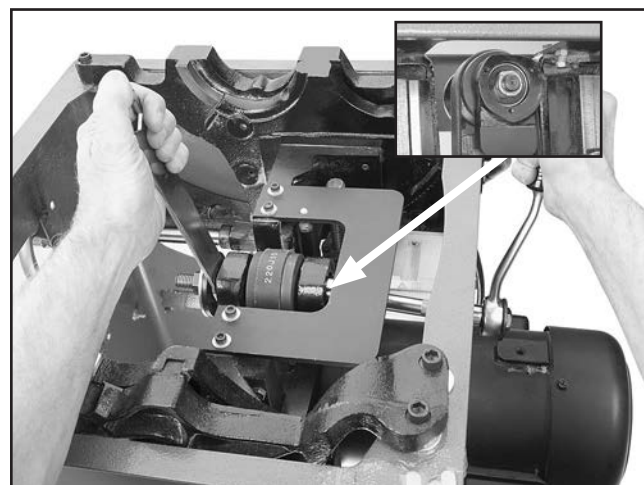

Figure 131. Removing arbor lock nut. (Inset: arbor lock nut.)
11. Place the open end of the arbor wrench on the arbor, and while keeping the arbor stationary, use a 25mm wrench to loosen and remove the lock nut at the other end of the arbor, as shown in **Figure 131**.